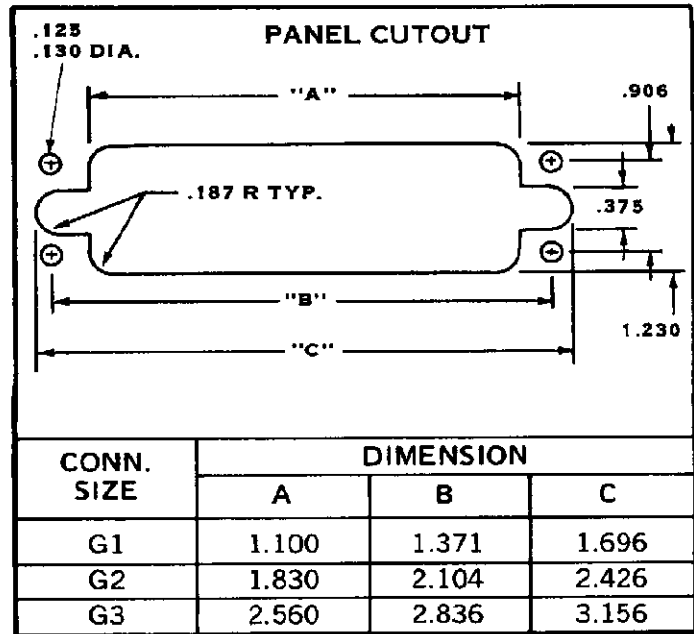

FIGURE 8
1. Make a cutout in Panel using the dimensions in Figure 8.